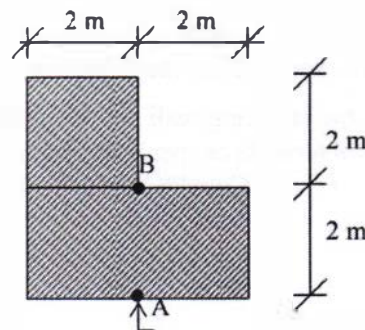

Fig. 2a
- 3(a) The L-shaped loaded area (Fig. 2a) exerts a uniform pressure of  $300 \text{ kN/m}^2$  to the soil. Determine vertical stress increase due to uniform pressure, at a point of 4 m directly under; (a) point A, (b) point B. 8